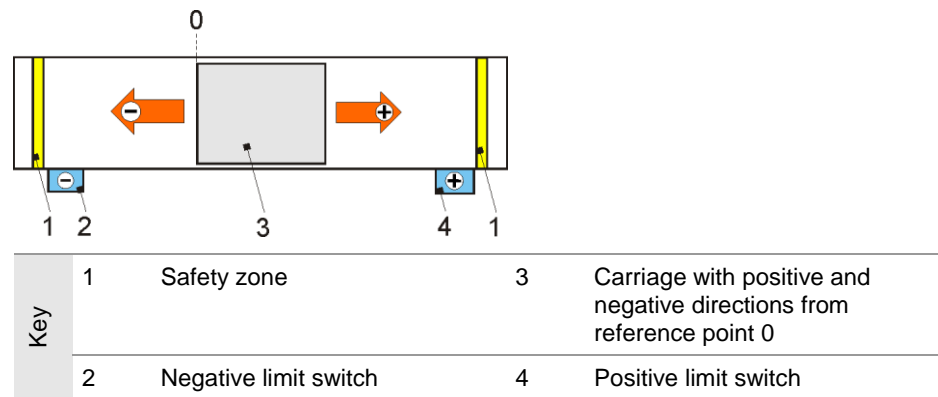

Figure 6: Example of travel direction and limit switch configuration
2. Check the direction of rotation of the motor. It must take into account the safety limit switches (figure 6). Alter the direction of the motor as necessary.